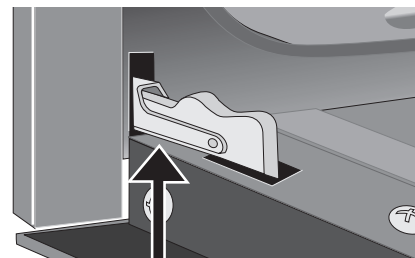
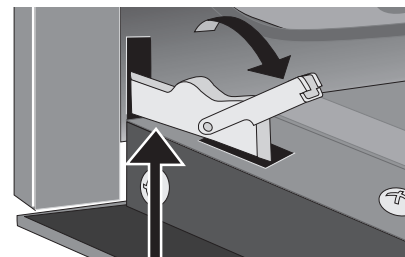

Figure 41: Door hinge locked
Figure 42: Unlocking door hinge
2. Pull up the lock located on each hinge support toward front of the oven until the lock stops. You may have to apply a little upward pressure on the lock to pull it up (Figure 41 and Figure 42).
4. Push the door hinge locks up toward and into the oven frame on both left and right oven door hinges to the locked position (Figure 41).